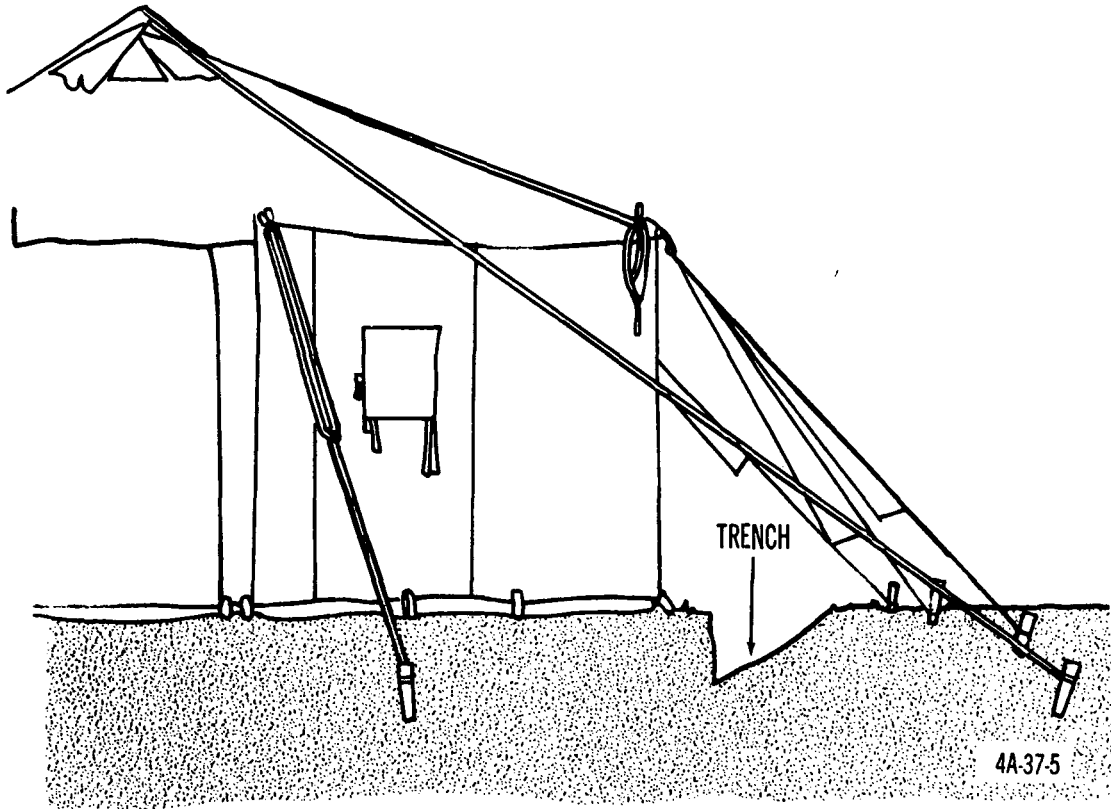

Figure 110. Cross-section view of tent trench.
b. Dig trench all around the tent (figs. 110 and 111). Cut straight down just outside foot-stop pins; do not dig in a V-shape. Slope the side away from the tent.